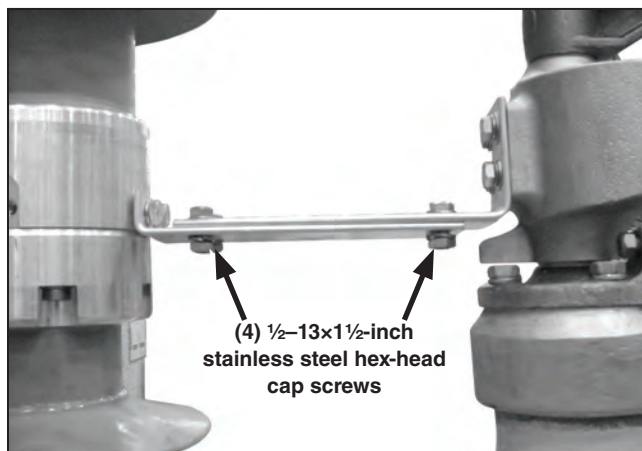

Figure 20. Attach the interrupter bus to the disconnect bus.
**STEP 11.** Attach the interrupter bus to the disconnect bus using the four ½–13×1½-inch hex-head stainless steel cap screws, flatwashers, Belleville washers, and nuts furnished. See Figure 20.